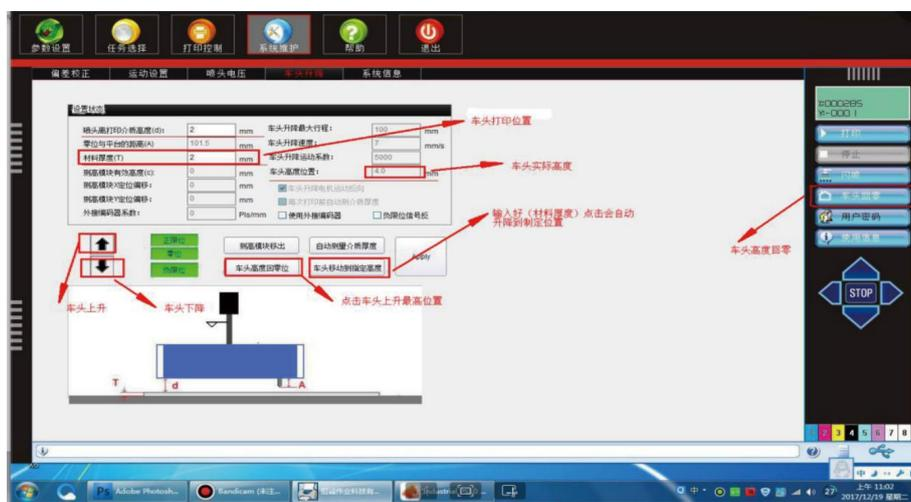

Figure 5
4: Determine the print height: in the system maintenance interface, select the head lift, as shown in Figure 5. Printhead from the print media height: generally a coin (1.88mm) or so. Material thickness: the thickness of the print material, fill in the box directly behind the can be.
(1) Head height position: the actual height of the current head. Measure the material thickness and fill in the print software
(2) Click on the front of the car to move to the specified height, as shown in Figure 5, and wait for the end of the action.
(3) To detect whether the material will scratch the printhead during the printing process, there are four keys on the right side of the software interface: Up, Down, Left and Right, which correspond to the four moving directions of the carriage head: Backward, Forward, Left and Right, and the Stop key in the center is the moving stop button. By clicking these keys to move the head to the top of the material, observe whether the material will scratch the nozzle, if so, increase the thickness of the material, if too high away from the material, then reduce the thickness of the material, the nozzle away from the material of the thickness of a coin (1.88mm) or so is appropriate. Then click the head back to zero, such as the right-hand side of Figure 5, and wait for the head to return to the zero position. (After changing the material thickness, you need to return the carriage to zero, and then click the carriage to move to the specified height to prevent scratching the material and injuring the printhead.)